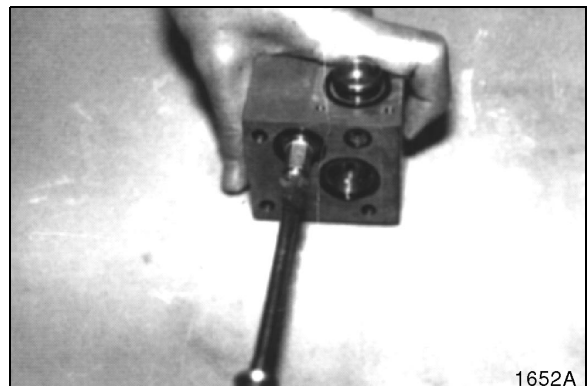

Figure 59
2. Remove filter. See Figure 59.